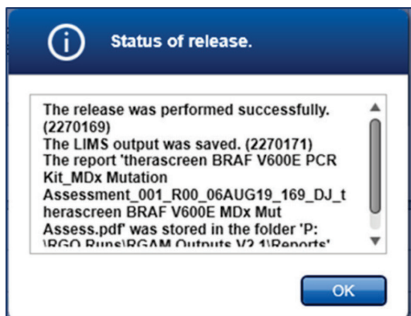

Figure 26. "Status of release" dialog.
12. Click "OK" when the "Status of release" dialog appears. (Figure 26).